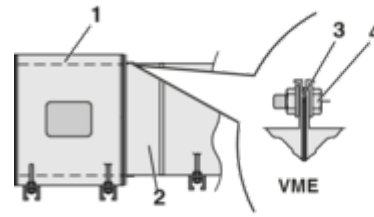

Fig. 12: Detail X: Connection version
- X Detail \Rightarrow Fig. 12